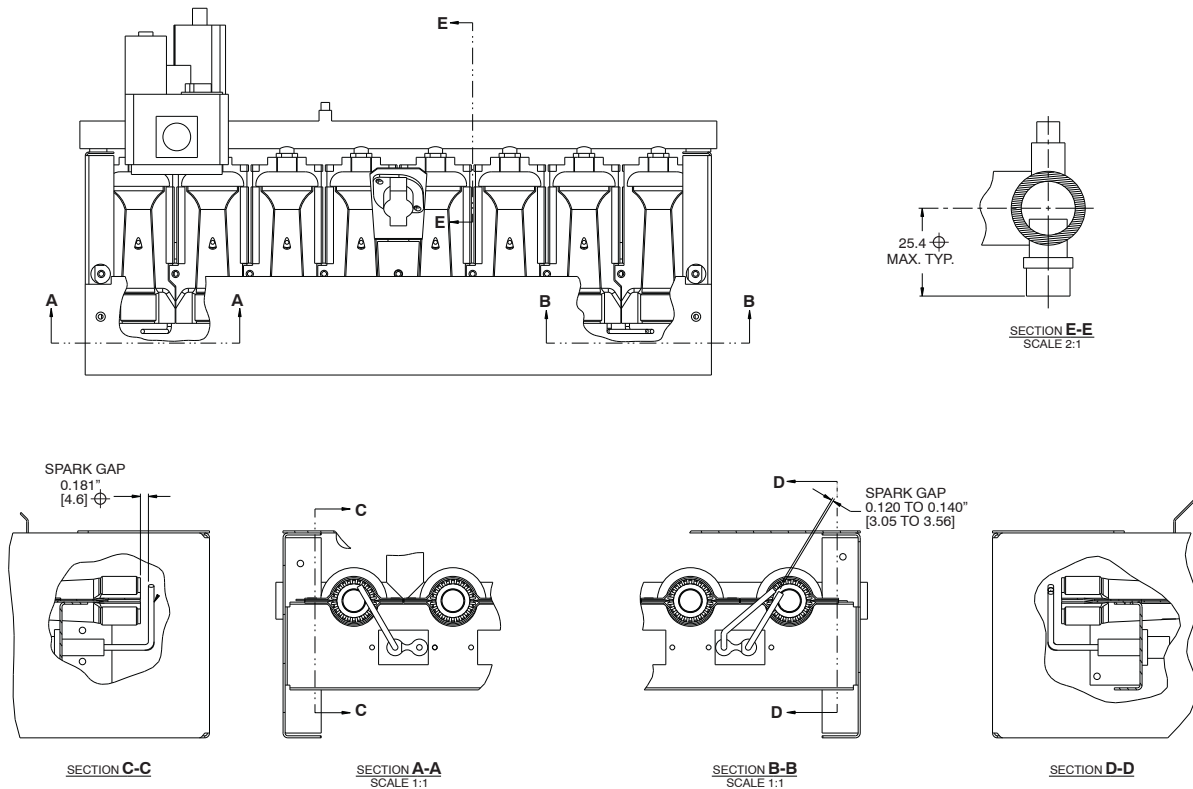

Fig. 39 - Spark Gap Adjustment
- Adjust spark gap. (See Fig. 39.)